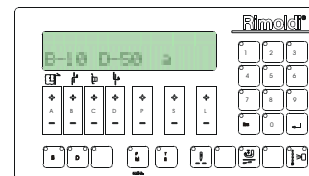

Fig. 7.4
**Control panel** (Fig.7.4 - optional) **EcoTop**